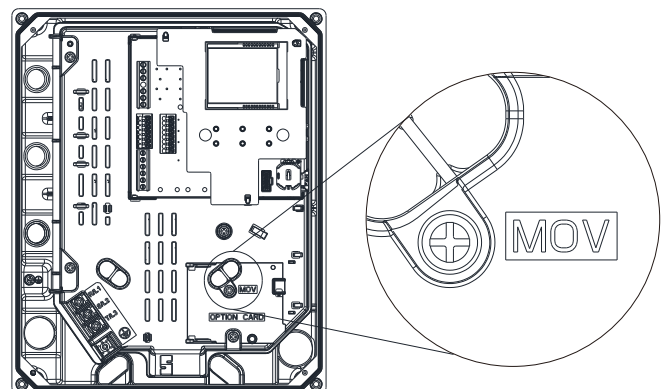

Figure 8-5
2. Check the MOV position if there is a screw tightened. If yes, then make sure the screw is tightened well, the recommended torque is 6-8 kg-cm [5.2-6.9 lb-in] [0.59-0.78 Nm]. As shown in Figure 8-5.